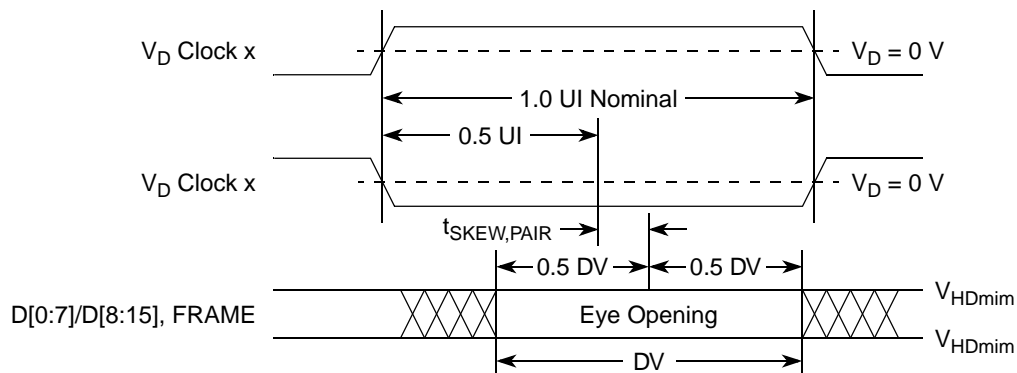
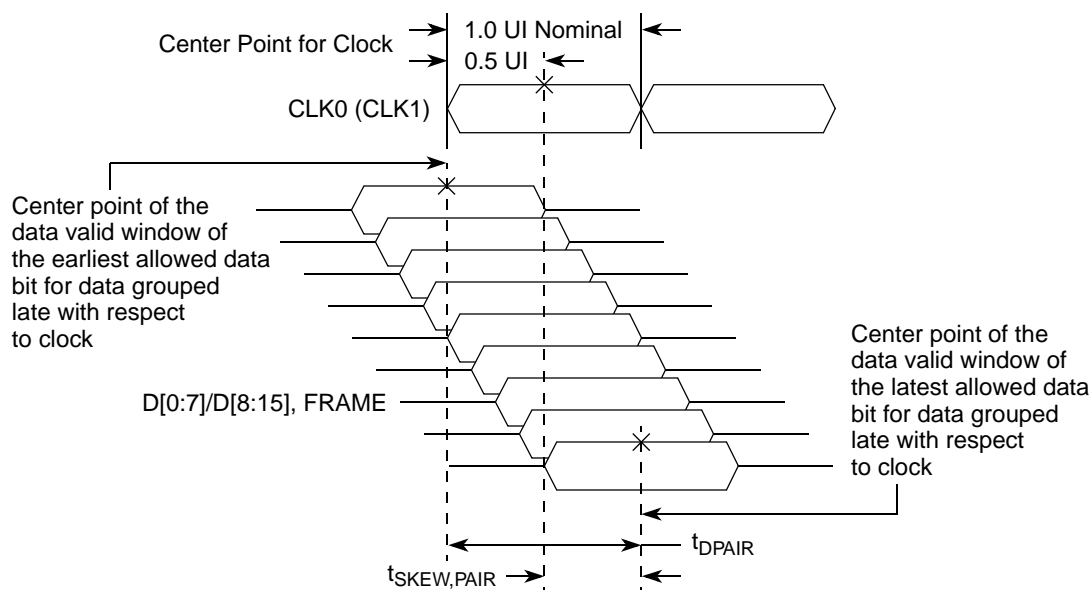

Figure 42. Data to Clock Skew
Figure 43. Static Skew Diagram
5. See Figure 43.
3. See Figure 43.
4. See Figure 42 and Figure 43.
Figure 42 shows the definitions of the data to clock static skew parameter  $t_{SKEW,PAIR}$  and the data valid window parameter DV. The data and frame bits are those that are associated with the clock. The figure applies for all zero-crossings of the clock. All of the signals are differential signals.  $V_D$  represents  $V_{OD}$  for the transmitter and  $V_{ID}$  for the receiver. The center of the eye is defined as the midpoint of the region in which the magnitude of the signal voltage is greater than or equal to the minimum DV voltage.
Figure 43 shows the definition of the data to data static skew parameter  $t_{DPAIR}$  and how the skew parameters are applied.